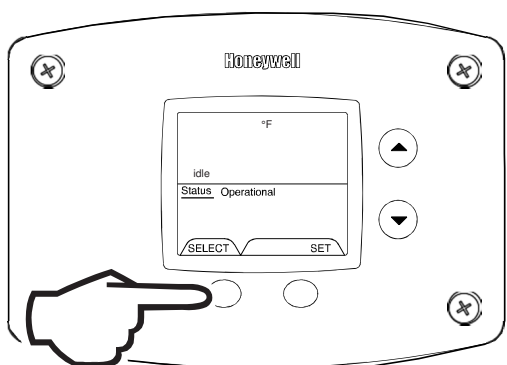

Fig. 63 Error code index
1. In 'Service Mode' press the 'Select' button until the next display after the 'Software Version'. If there are no current error codes, the display will show -- (Fig. 63).